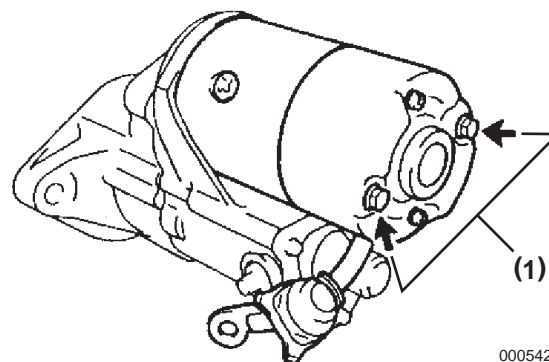

Figure 10-41
12. Assemble the field coil frame and armature assembly using two through bolts (**Figure 10-41, (1)**) and torque to 95 kgf-cm, 9.32 N-m (82.4 lb-in.).